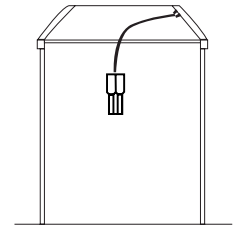

Figure 7
3. Replace with provided male orange connector (See Fig. 7)